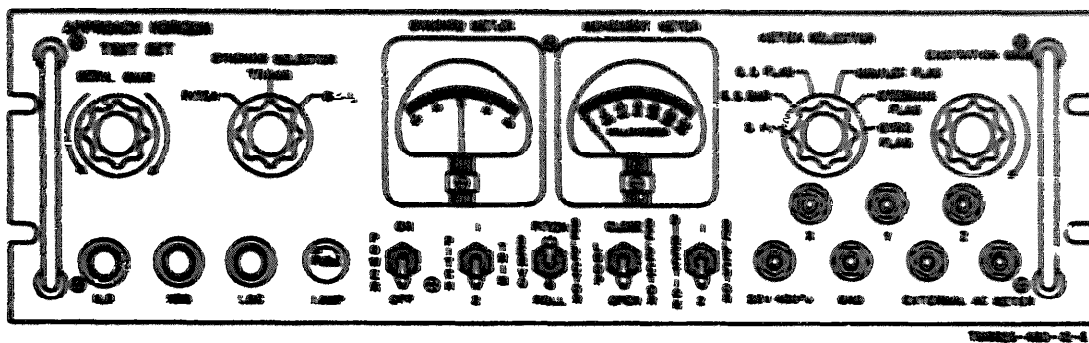

Figure 1. Indicator Test Set TS-1625/asm-111, front panel view
b. Set the unit under test **POWER** switch to **OFF**, and connect the power input cable to a 115-volt, 400-cps source. Refer to figure 1 for location of all controls; position controls as indicated in (1), (2), and (3) below.
- (1) Set the **LOOP SELECTOR** switch to **OPEN**.
- (2) Adjust the **EXCITATION GAIN** control fully counterclockwise.
- (3) Set the **POWER** switch to **ON**.